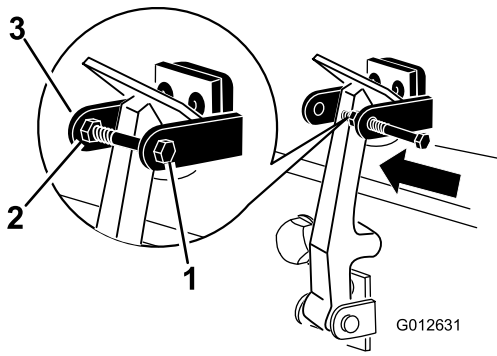

Figure 15
7. Screw the bolt into the other arm of the hood-lock bracket to lock the latch in position (Figure 15).